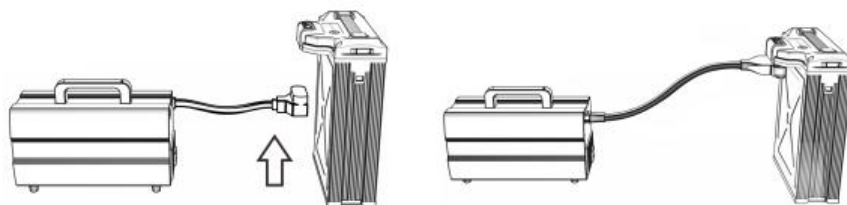

Figure 1-12
Step 2: Connect the charger: connect the charger adapter cable to the charger charging port. As shown in figure 1-12.